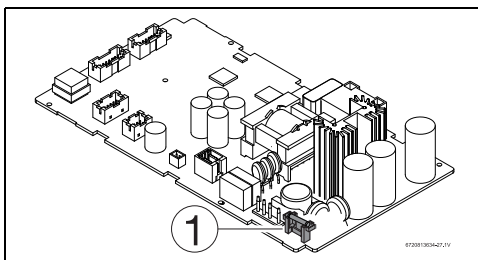

Fig. 23 Fuse position
- ▶ Check the fuse on the printed circuit board, for electrical continuity, see fig. 23, [1].